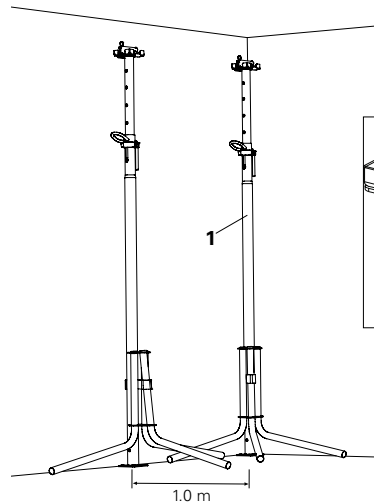

Fig. A4.01
1. Erect two props with prop heads (1) and secure with tripods, distance 1.0 m (Fig. A4.01)